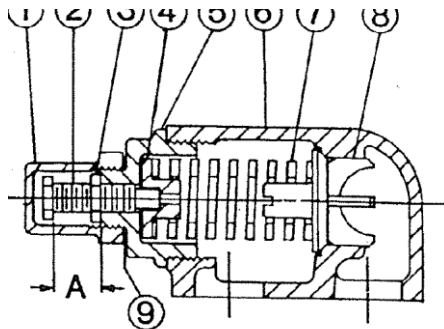

FIGURE 17
2. Measure and record the length of extension of the adjusting screw. Refer to "A" on Figures 17, 18 and 19.